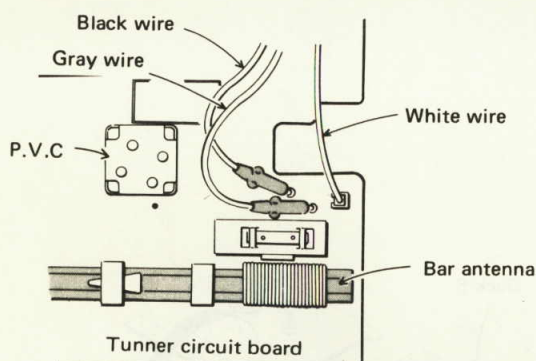

Fig. 9
- 3) Disconnect the three wires. (See figure 9)